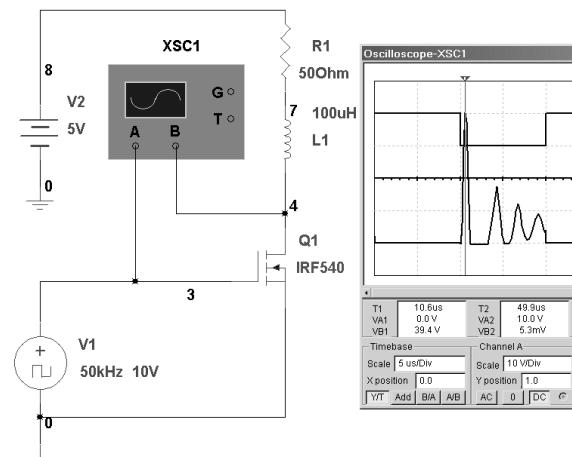

Figure 9-32 Motor flyback
2. Adding the 100 μ H inductance in series with the motor's resistance reveals the problem, shown in Figure 9-32. While the input is high the switch is *on*. The voltage across the switch is low. But as soon as the switch turns *off*, the inductor flies back, producing a 40 V_p kick. This is large enough to damage the logic circuitry driving the motor.